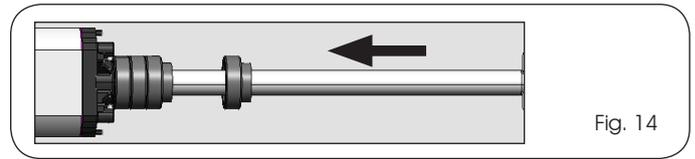

Fig. 14
14. If an opening mechanical stop on ground is not installed, spacers can be used (Fig. 1 ref. ⑦). Remove the front articulated joint and insert on the rod the number of spacers required to reach the desired opening angle (Fig. 14).